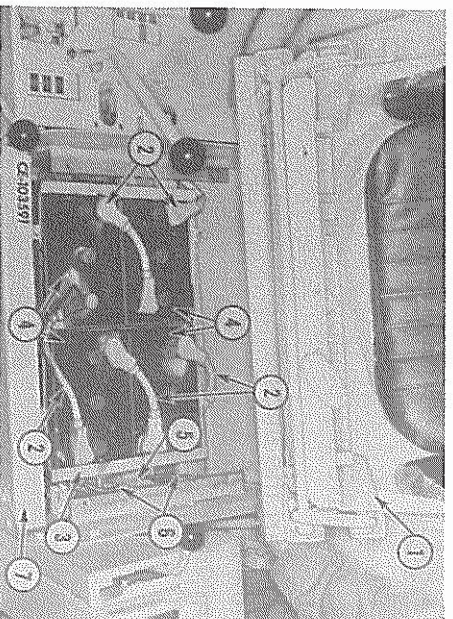

FIG. 5 — Removing the Seat Frame Assembly
2. Remove the seat bottom cushion. Remove the seat frame mounting hardware and lift off the seat frame assembly (1, Fig. 5). Disconnect the battery cables (2) at one end to allow removal of the battery top support bracket (3). Then mark the batteries to assure installation in the same location and remove the four batteries (4).
3. Remove the battery bottom support bracket (5, Fig. 5). The rear, LH mounting hardware also secures a clamp that holds the rear light wire (6).
4. Remove the seat front support (7, Fig. 5).